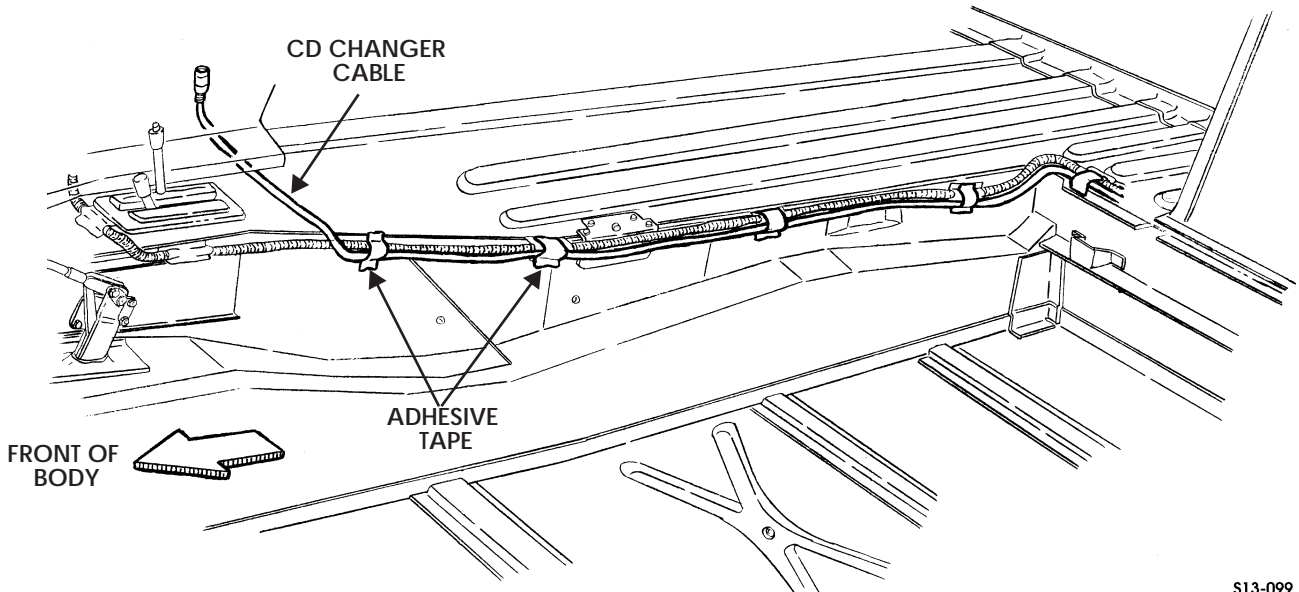

Figure 13-125: CD Changer Cable Routing - Four-Door and Station Wagon Vehicles
8. Remove the tape securing the CD changer cable to the body (Figure 13-125).
2. Secure CD changer cable to the body with adhesive tape as shown (Figure 13-125).
3. Secure CD changer cable to roof, B-Pillar, and rear wall with adhesive tape as shown (Figures 13-125, 13-126, 13-127, 13-128, 13-129, 13-130, and 13-131).